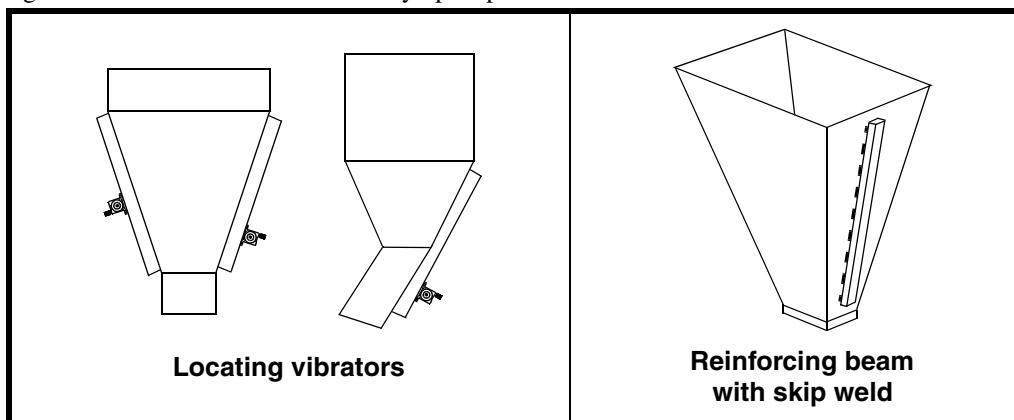

Figure 1. Locating Vibrators and Reinforcing Beams on Hoppers
3. See Figure 1. Locate vibrator in lower 1/4 to 1/3 of structure slope length. If second vibrator is needed, mount 180 degrees from first vibrator and halfway up slope.
4. If necessary, install reinforcing beam to strengthen chute wall (see Figure 1). Skip weld beam in place: Weld 3 in. (76 mm) then skip 2 in. (51 mm). Repeat for entire perimeter of beam. Do not weld last 1 in. (25 mm) of either end of beam or any corner. Make sure beam extends at least 3/4 the length of structure from top to bottom.